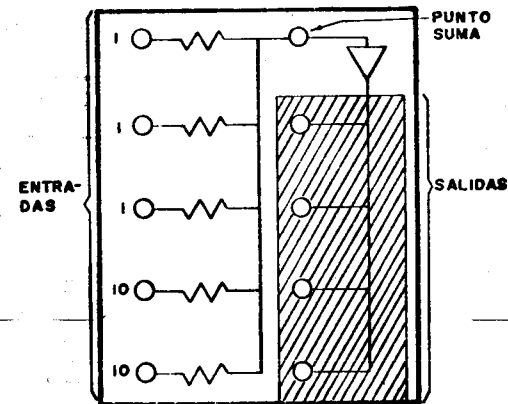

FIGURA I-8
2.1.2 Sumadores. (FIGURA I-8).